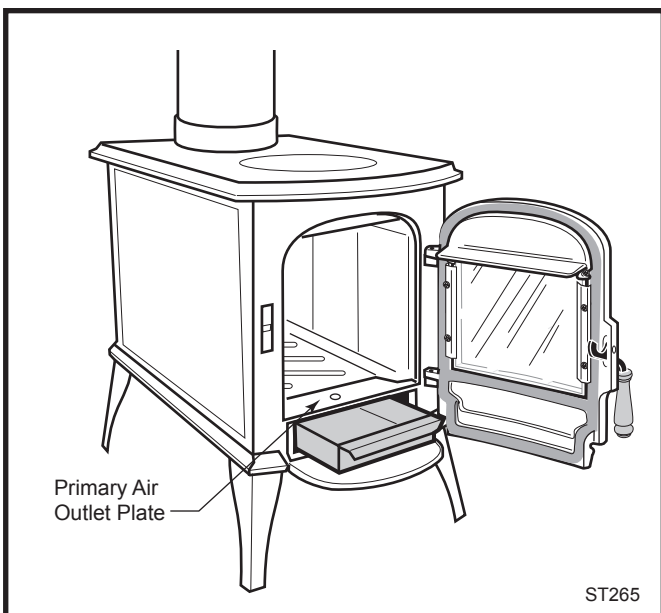

Fig. 31 Primary air outlet - keep clear of ash and charcoal accumulation.
Step 3. Use a fireplace tool to break up the charcoal and direct ash through the grate. Pull the charcoal from the back to the front. This will encourage efficient combustion as the fuel burns from front to rear. (Fig. 31)